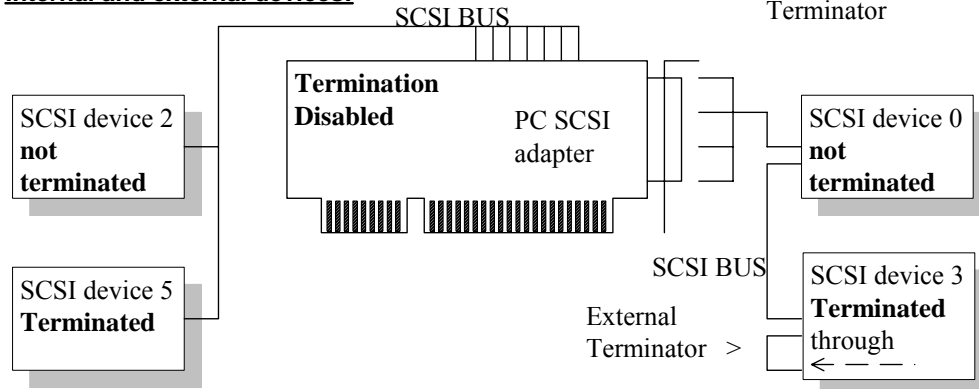

Figure 13: SCSI Cable Connection and Termination Configuration
Most SCSI adapters include a BIOS expansion that allows the system to boot from the FFD, once it is properly configured and high-level formatted. In addition, the BIOS expansion automatically installs support for the FFD and assigns it a drive letter for use under DOS or other operating systems. Figure 13 illustrates the SCSI cable connection and termination configuration.
4. Verify that the SCSI bus is properly terminated. Refer to Figure 13 for different termination configurations.